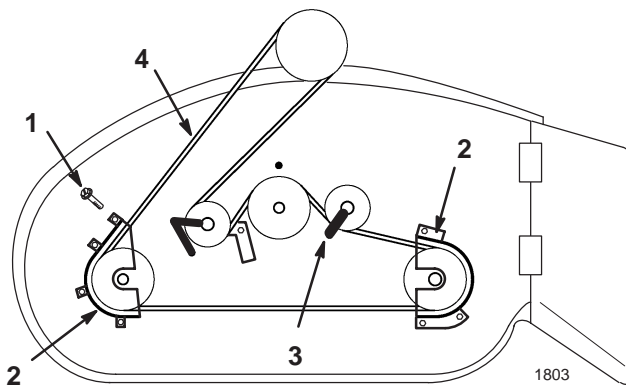

Figure 29
2. Remove the pulley cover mounting screws and pulley covers from blade pulleys (Fig. 29).
3. Loosen the idler pulley mounting bolts to move the belt guides (Fig. 29).
4. Remove the belt from the pulleys (Fig. 29).
2. Adjust belt guide on the idler pulley as shown and tighten the mounting bolt (Fig. 29).
3. Install the left and right pulley covers with the mounting screws (Fig. 29).